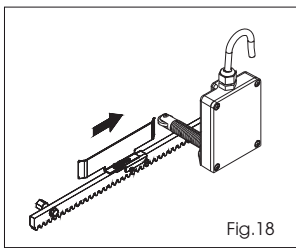

Fig. 18
- 5) Allow the plate to slide over the rack in opening direction (Fig.18). As soon as the opening limit switch LED on the control board goes off, take the plate forward by about 20÷30 mm and secure it provisionally on the rack, using the supplied screws.